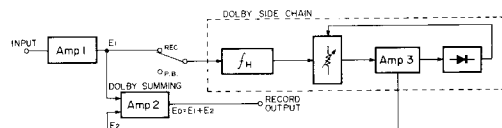

Figure 32-1
- In the case of record mode (Refer to Figure 32-1)
- (1) Being amplified by the amplifier 1, the signal is divided into the two: one is applied to the amplifier 2 and another to the high-pass filter via the REC/P.B switch.